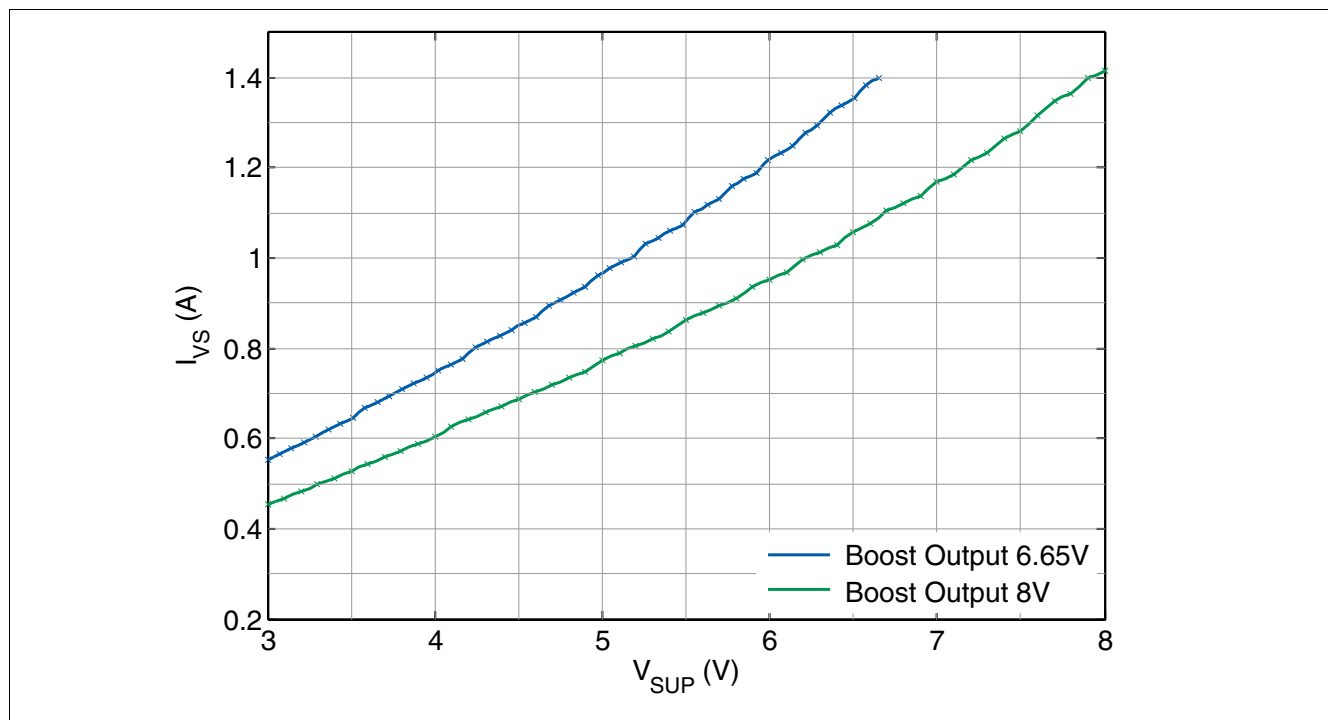

Figure 14 Maximum DCDC boost current capability versus V_{SUP} .
- 3) Values verified in characterization with boost converter specified in Chapter 15.1. Not subject to production test; specified by design. Refer to Figure 14 for additional information.
Note: Figure 14 is based on simulation results (specified by design), with boost converter external components specified in Chapter 15.1.